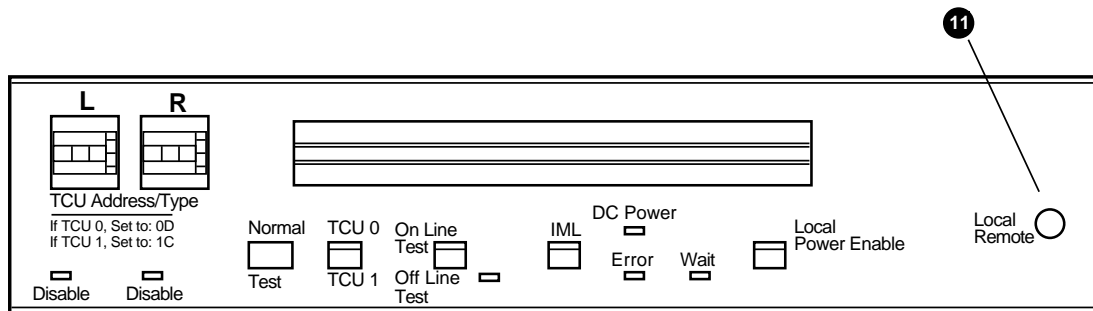

Figure 2-11 Remote/Local Switch
The Remote/Local switch ⑪ determines what part of the system controls power to the subsystem (Figure 2-11). The Remote position is not supported in the TA91. When the switch is in the Local position, the tape control unit controls the power to the subsystem.